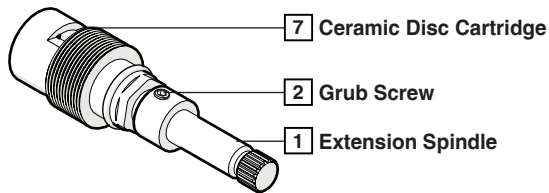

Fig 7A: Ceramic Disc Assembly
2. Remove cartridge lock nut (3) from the Ceramic Disc Assembly (Fig.7A) as supplied. Ensure that the hot and cold indicators located on the bottom of the Ceramic Disc Assembly (Fig.7A) are placed in the corresponding side of the breach
3. Insert ceramic disc assembly (Fig.7A) into (A) wall breach or (B) tap body. Tighten ceramic disc assembly (Fig.7A) firmly using a 14mm Deep tube socket (not supplied).